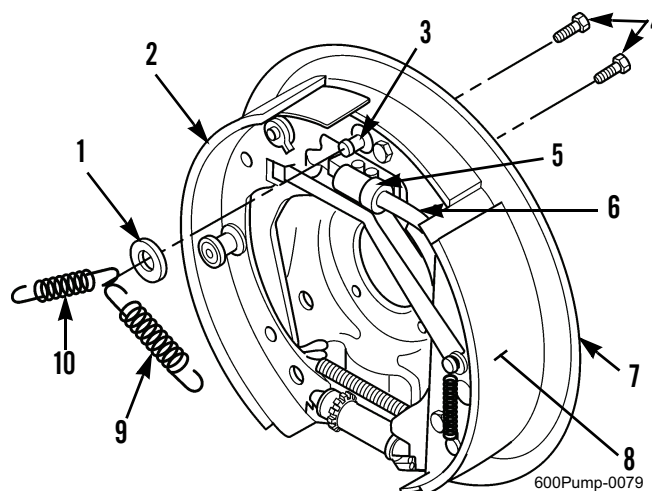

Figure 1. Wheel Cylinder.
1. Remove front shoe spring (Figure 1, Item 9) from front brakeshoe (Figure 1, Item 8) and anchor pin (Figure 1, Item 3).
2. Remove rear shoe spring (Figure 1, Item 10) from rear brakeshoe (Figure 1, Item 2) and anchor pin (Figure 1, Item 3).
3. Remove washer (Figure 1, Item 1) from anchor pin (Figure 1, Item 3).
4. Remove two capscrews (Figure 1, Item 4) with integral lockwashers securing wheel cylinder (Figure 1, Item 5) to backing plate (Figure 1, Item 7). Discard capscrews with integral lockwashers.
5. Pull wheel cylinder (Figure 1, Item 5) loose from backing plate (Figure 1, Item 7) while compressing wheel cylinder push rod (Figure 1, Item 6). Remove push rod from front brakeshoe (Figure 1, Item 8).